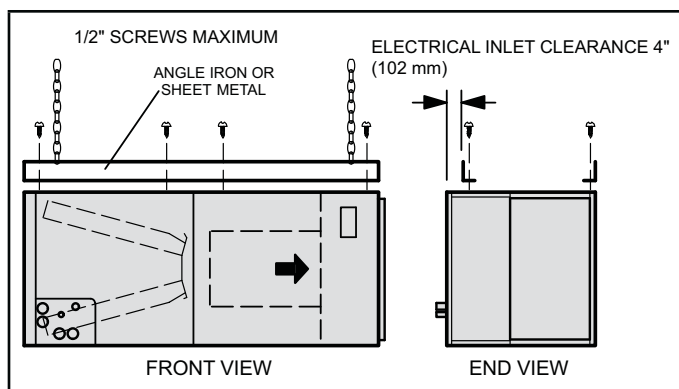

FIGURE 8. Suspending Horizontal Unit
- 2 - If the unit is suspended, the entire length of the cabinet must be supported. If you use a chain or strap, use a piece of angle iron or sheet metal attached to the unit (either above or below) to support the length of the cabinet. Use securing screws no longer than 1/2" to avoid damaging the coil or filter as illustrated in figure 8. Use sheet metal screws to connect the return and supply air plenums as required.